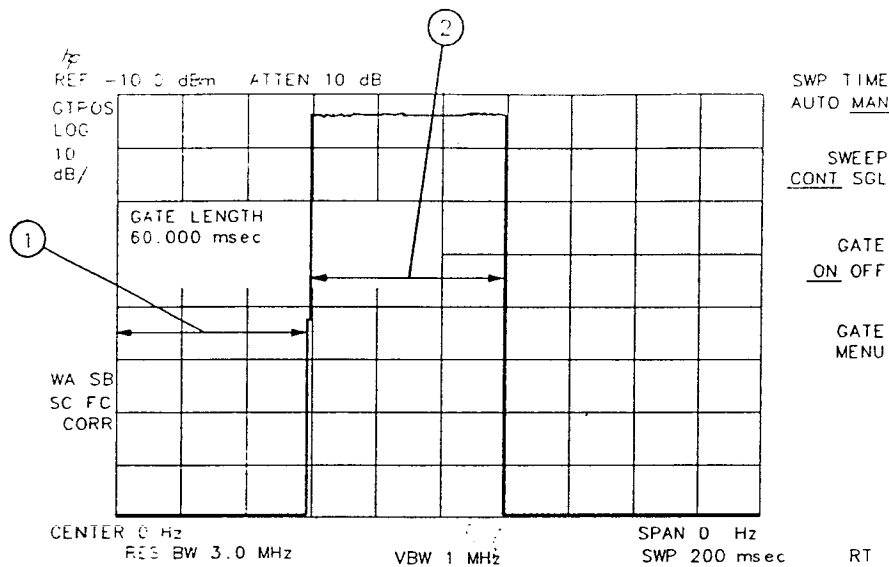

Figure 2-53. Gate On
3. Press **PREV MENU**, **GATE ON OFF** (so that **ON** is underlined). See Figure 2-53.
Item	Description of Items in Figure 2-53